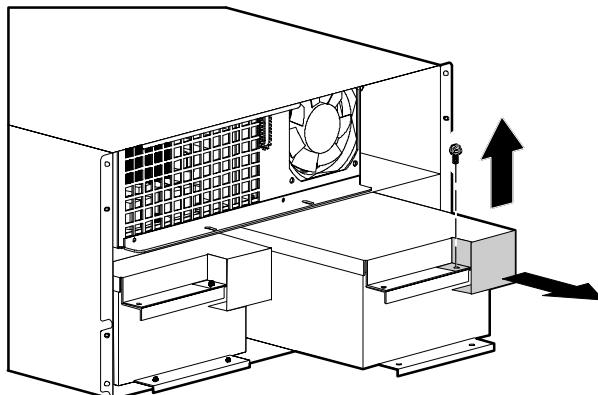

Figure 8. Removing the Battery Connector Covers
6. For each battery tray, remove the battery connector cover. Remove the cover screw and discard the cover. Reinstall the screw to secure the sheet metal (see Figure 8).